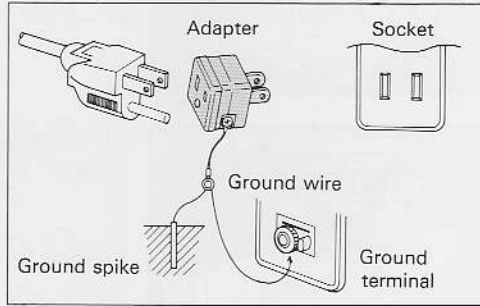

Fig. 2-16
- When the receptacle is not a double-pole ground type, use a plug converting adapter (Fig. 2-16).